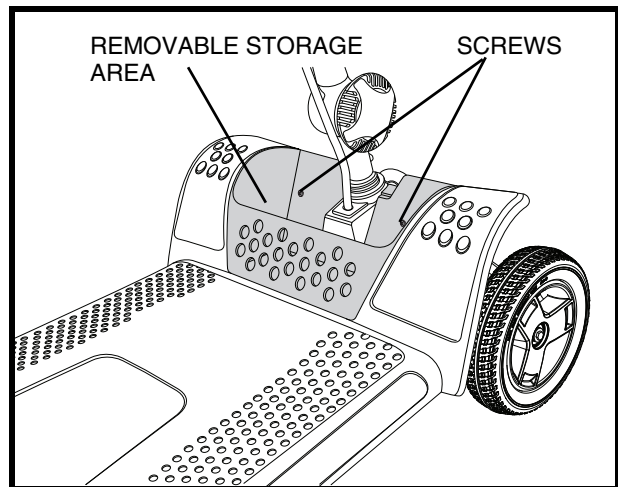

Figure 22. Front Storage Area
Your Travel Scooter is equipped with a front storage area that can be removed if additional leg or foot room is needed. See **figure 22**. Remove the screws to separate the small basket from the Travel Scooter.
2. Place the seat upside down so that you can see the bottom of the seat base. See **figure 22**.